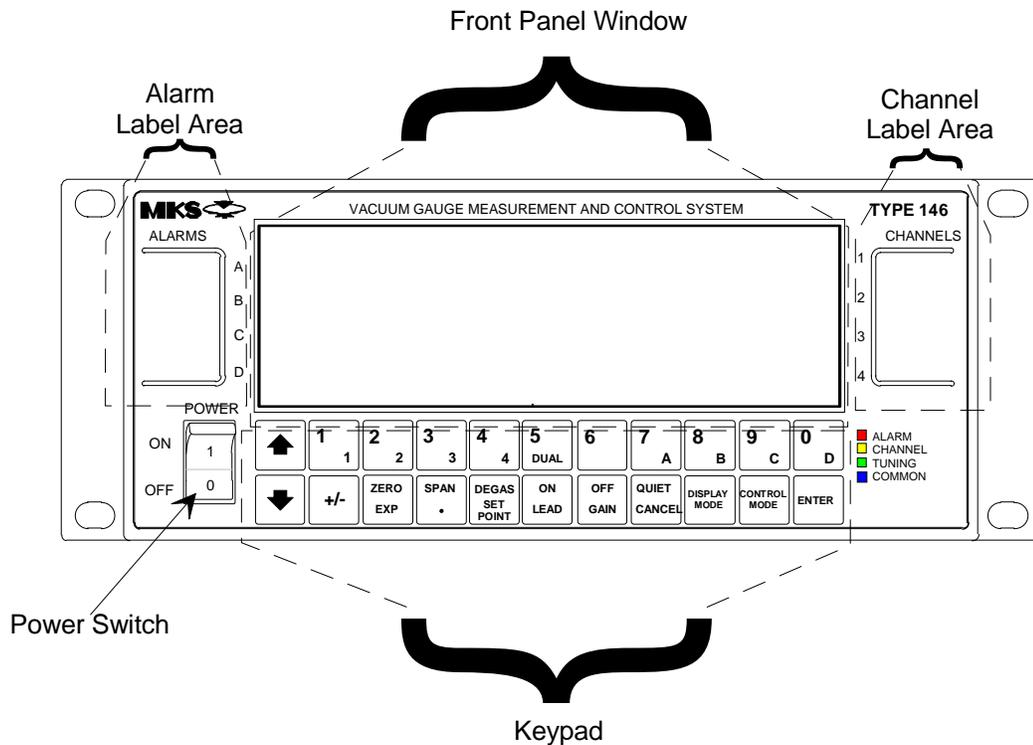

Figure 1: The Front Panel of the 146 Instrument
**Front Panel** The front panel of the 146 unit is shown in Figure 1, page 21. It includes the front panel window, the alarm and channel label areas, the keypad, and the power switch.